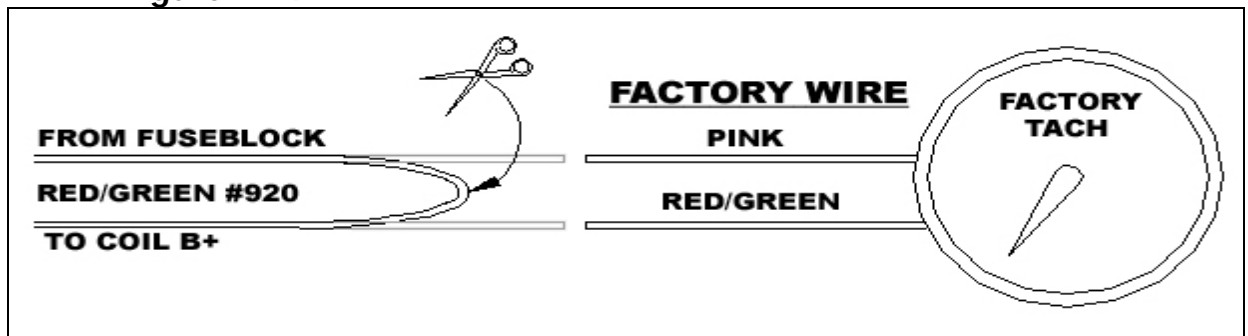

Figure 7-19 Factory Tach. Connections
7.10.3 For those who are using a factory tachometer, the Coil B+ #920 (RED/GRN) wire loop located in the Gauge Cluster Group needs to be cut and connected to the leads coming from the tachometer. For those who do not have a factory tach, this step should be skipped and the wire should be left as a loop. See **Figure 7-19**